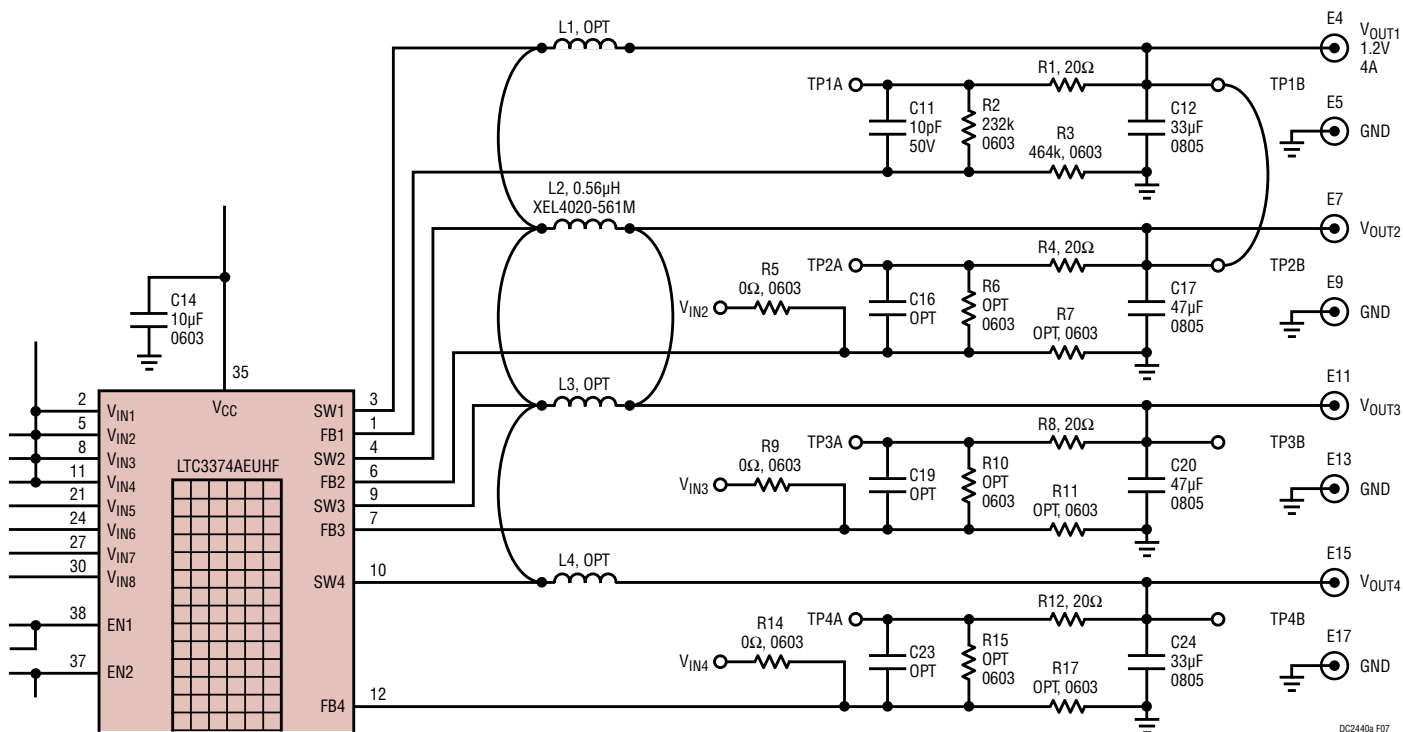
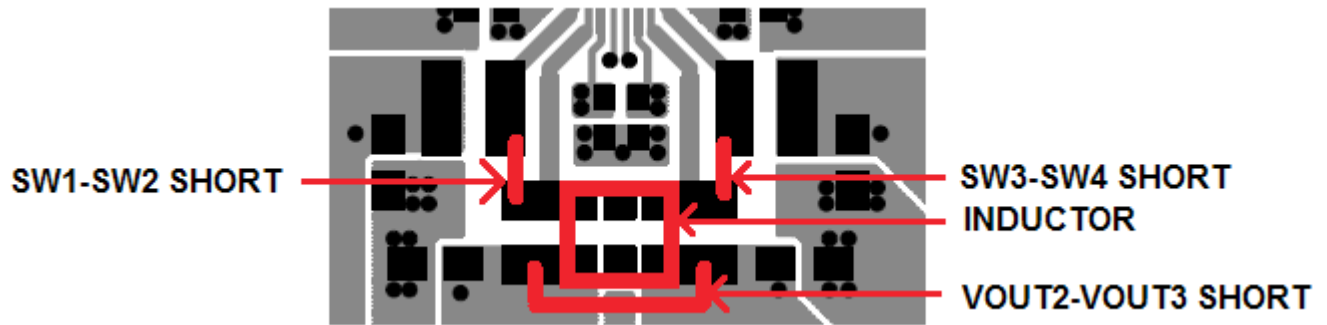

Figure 7. Combined 4A Output Regulators 1, 2, 3 and 4
Figure 8. Combined 4A Regulator Inductor Placement and Connections
To combine regulators 1, 2, 3, and 4 for a 4A output perform the following steps and refer to Figure 7 and Figure 8:
2. Add an appropriate size inductor that can handle the 4A output at current limit. The inductor should be placed across the L2, L3, pads and the copper between the pads as shown in Figure 8. The inductance should be reduced by about 1/4 for a 4A output. A 0.55 μ H inductor is recommended for a switching frequency of 2MHz. Refer to table 4 for recommended inductors.
3. Short SW1 and SW2 together at the L1 and L2 SW pads. Then short SW3 and SW4 together at the L3 and L4 SW pads as shown in Figure 8.